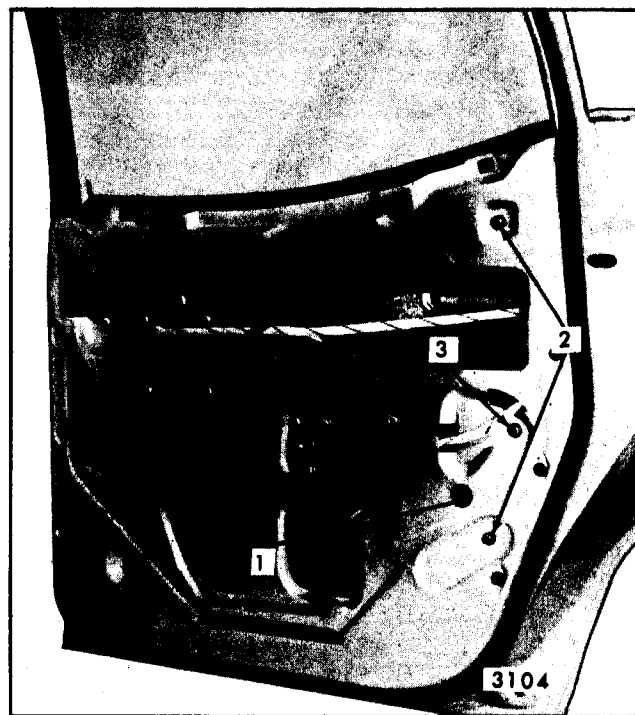

Fig. 6-110-Rear Door Window Removal and Adjustments - "A" Closed Styles
2. With window in a three-quarter lowered position, remove window lower sash channel cam attaching screws ("1", Figure 6-110).
3. Loosen rear glass run channel upper and lower attaching screws ("2", Figure 6-110).
Adjustments have been provided to relieve a binding door glass due to misalignment of the glass run channel ("2", Figure 6-110). In addition, the door window inner panel cam ("3", Figure 6-110) is adjustable which can correct a rotated (cocked) rear door window.